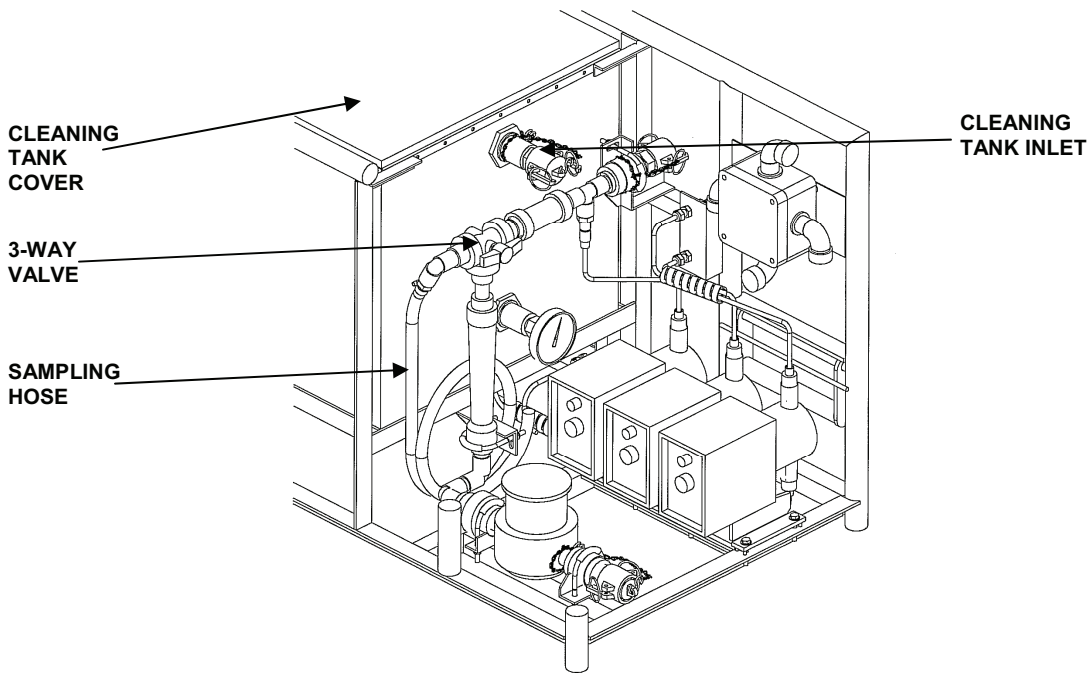

Figure 2. Filling Cleaning Tank.
2. Open cleaning tank cover. Support lid as needed. See Figure 2.